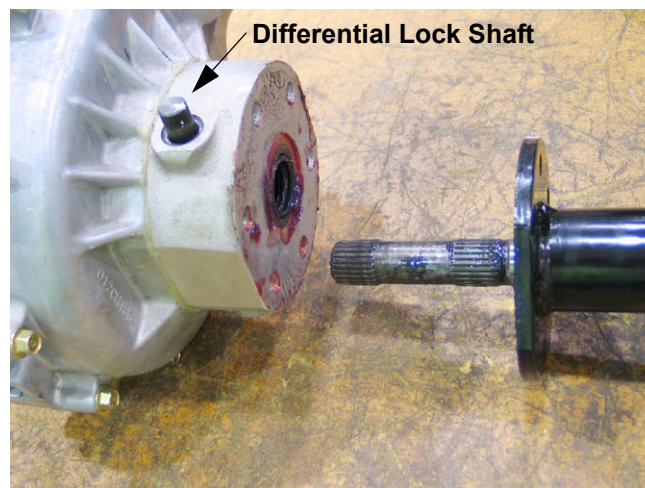

Figure 11.2
- 11.2. Separate the axle tube from the differential lock housing. See Figure 11.2.